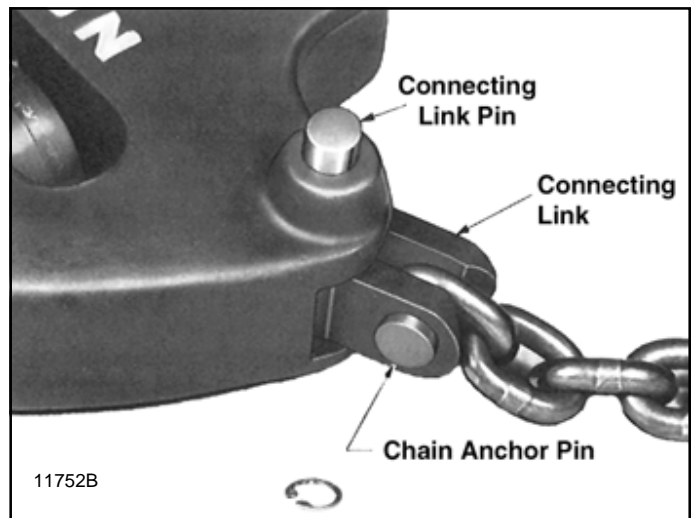

Figure 7-31. Removing Connecting Link Pin from 3 Ton Lower Block Assembly
(1) Remove chain sprocket from lower block following procedure for 2-ton link chain models described in paragraph 7-5. b. (2) above.
(2) To disconnect end of chain anchored to lower block, remove retaining ring from pin bore (fig. 7-30). Push connecting link pin from bore by pressing through hole provided in opposite side of block (fig. 7-31). Chain connecting link is now free and can be further disassembled for inspection.